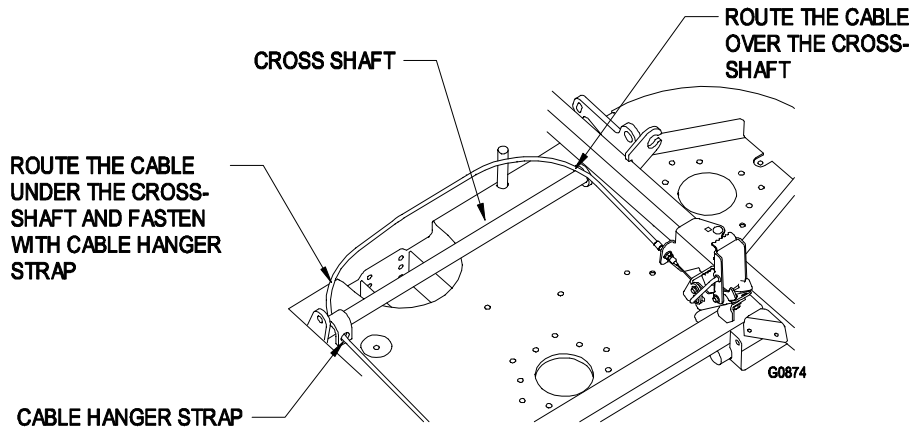

FIGURE 7
3.2.8 Route the cable over the left side of the cross-shaft. Remove the seal and run the nuts off the cable. Feed the parts loosely through one hole of the cable hanger strap. Hang the cable under the right side of the cross-shaft and fasten with cable hanger strap as shown in Figure 7. Reinstall nuts and seal.